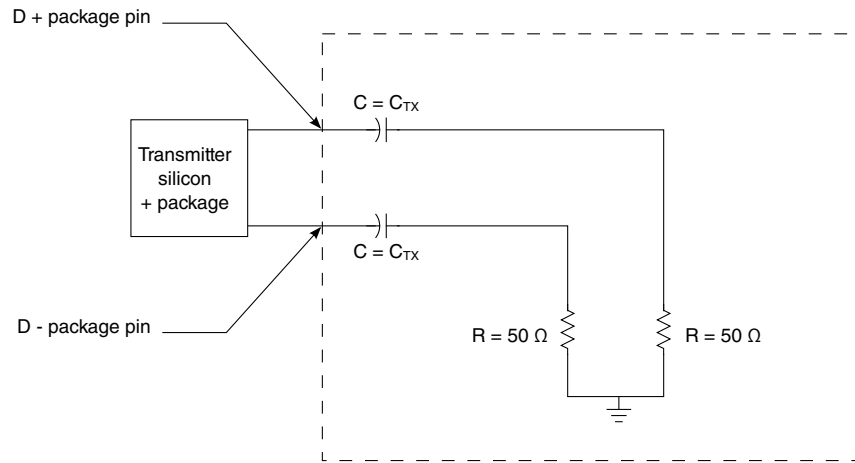

Figure 41. Test/measurement load
- Specified at the measurement point into a timing and voltage test load as shown in Figure 41 and measured over any 250 consecutive transmitter UIs.
1. Specified at the measurement point into a timing and voltage test load as shown in Figure 41 and measured over any 250 consecutive transmitter UIs.
1. Specified at the measurement point and measured over any 250 consecutive UIs. The test load in Figure 41 must be used as the receiver device when taking measurements. If the clocks to the receiver and transmitter are not derived from the same reference clock, the transmitter UI recovered from 3500 consecutive UI must be used as a reference for the eye diagram.